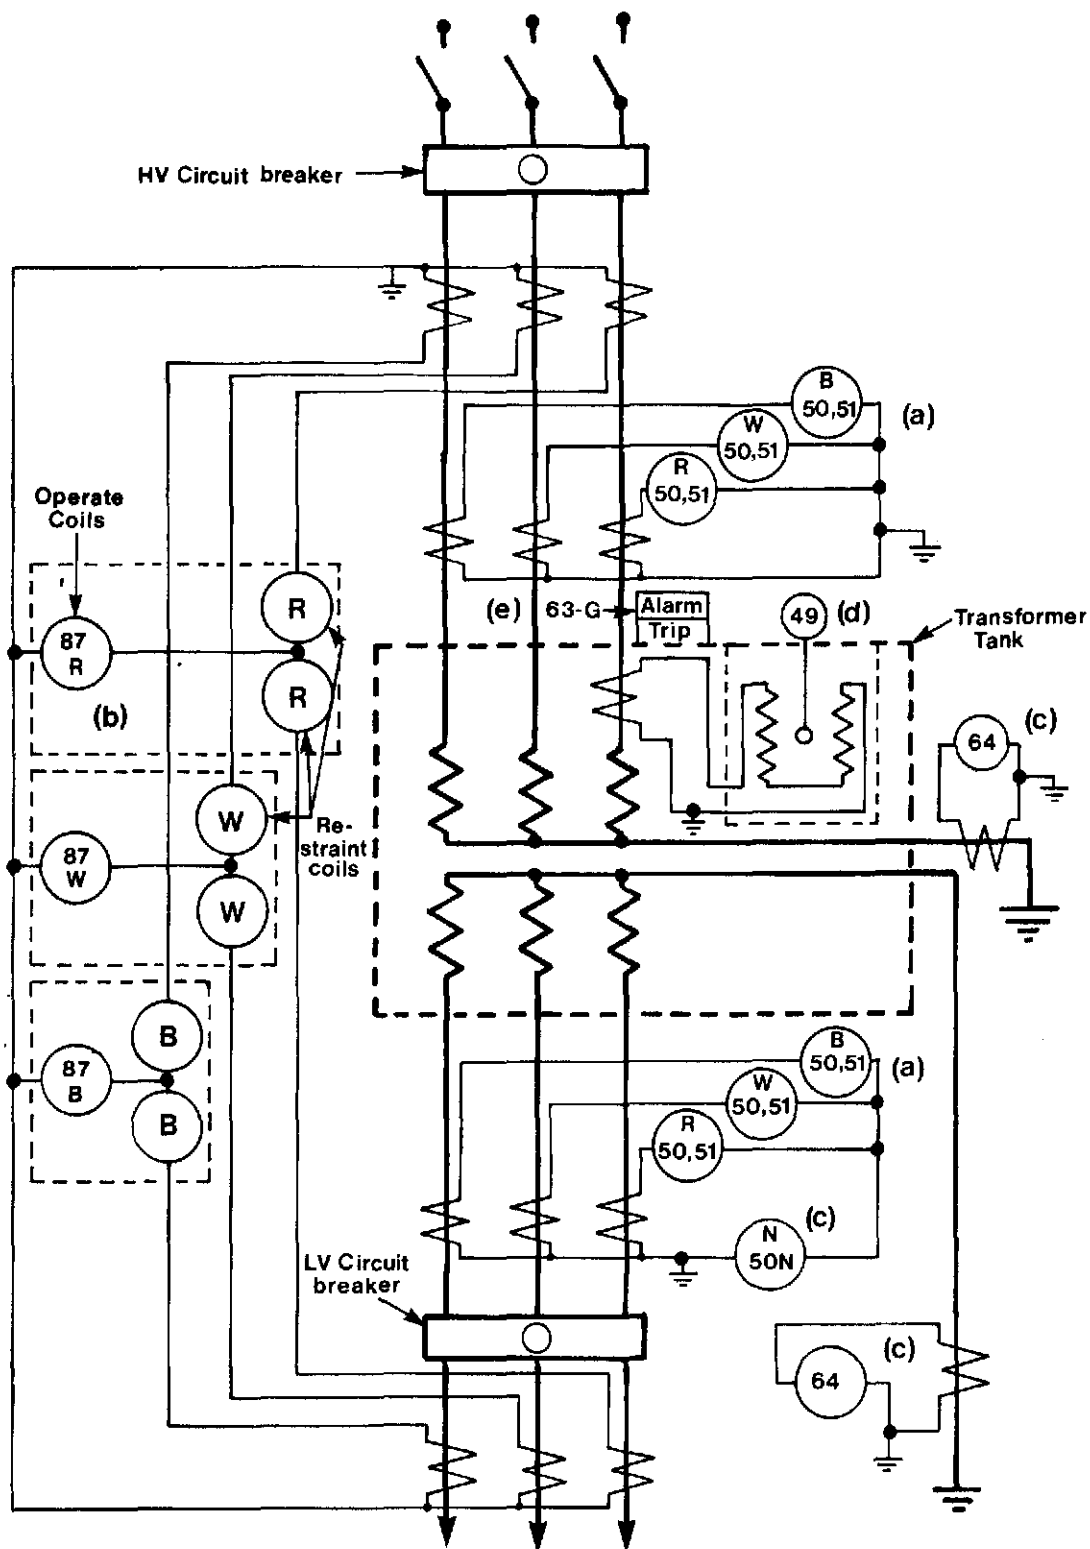
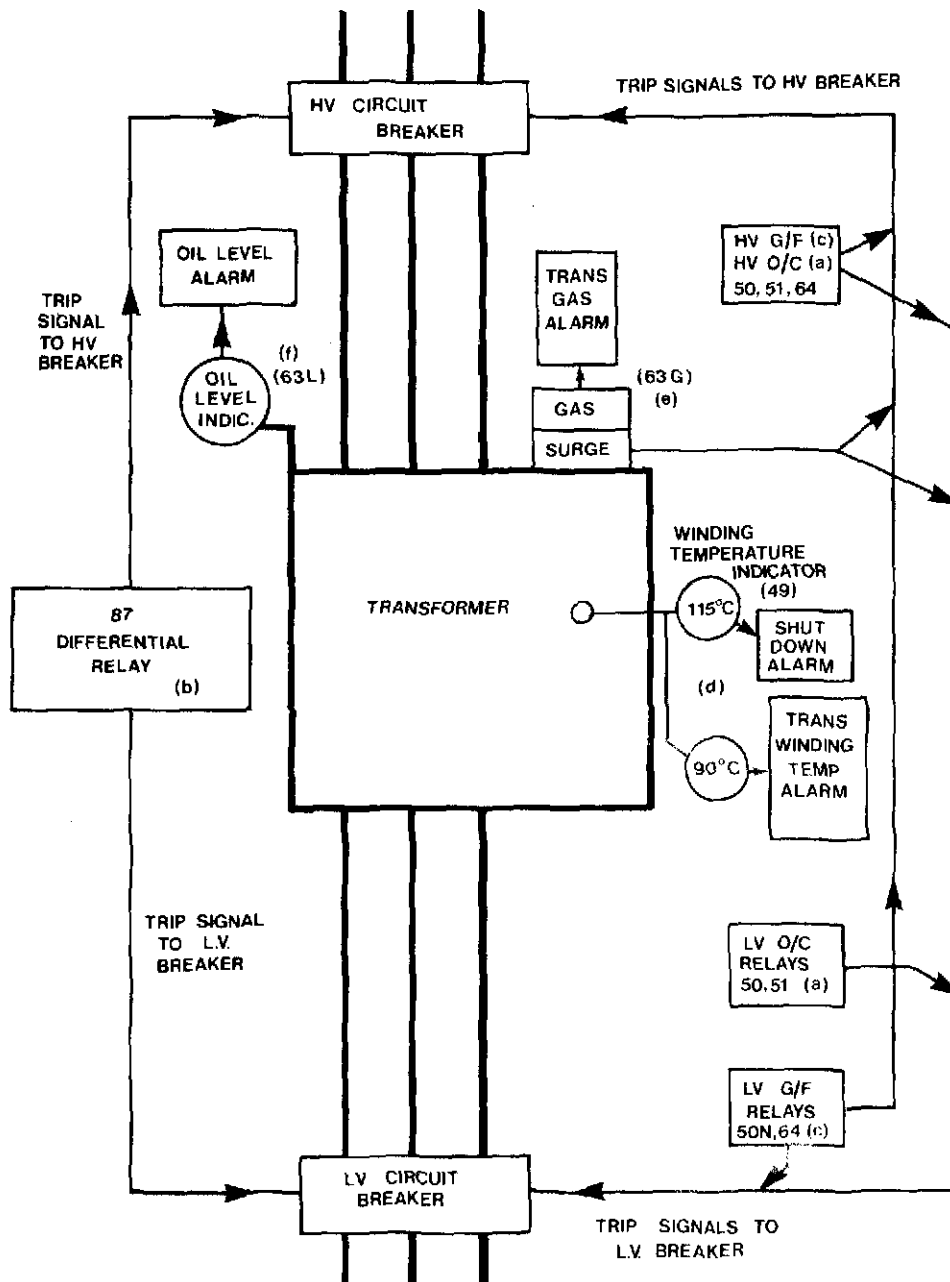

Figure 5: A 50 MVA transformer with its protective devices.
Figure 6: Diagram showing tripping from relays to breakers. Alarms are also shown.
4.2.1 Detailed Protection Schemes. The circuits associated with the transformer and its CT's are shown in Figure 5, Figure 6 shows the dc tripping.
4. Figure 6 shows the protection applied to a transformer. For each of the protective devices:
- (a) Overall differential (87).
- (c) HV ground fault (64).
- (d) LV ground fault (64).